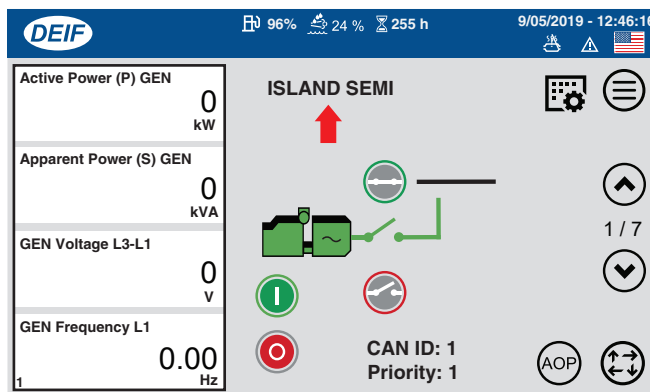

**Figure 55. Semi Mode Button**
3. Press the **Semi Mode button** as shown in Figure 55.